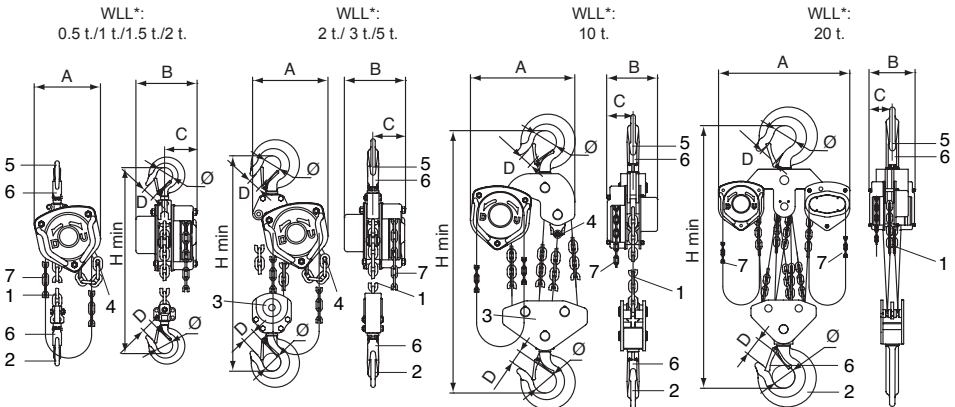

Fig. 1
The tralift™ hoist is supplied equipped with a load chain (item 1, fig. 1) and a hand chain (item 7, fig. 1) compatible for a standard lifting height of 3 m.
The load chain is formed by one or several strands (see §2 technical specifications), equipped with a lifting hook (item 2, fig. 1) on its load-end side ; on the other end (slack strand side), the load chain is secured to a low limit stop (item 4, fig. 1) itself secured to the hoist.
3. Check that the hook (item 2, fig. 1) and the safety latches (item 6, fig. 1) are in good condition.
4. Check that the end of the load chain, slack strand side, is secured to the low limit stop of the hoist (item 4, fig. 1).